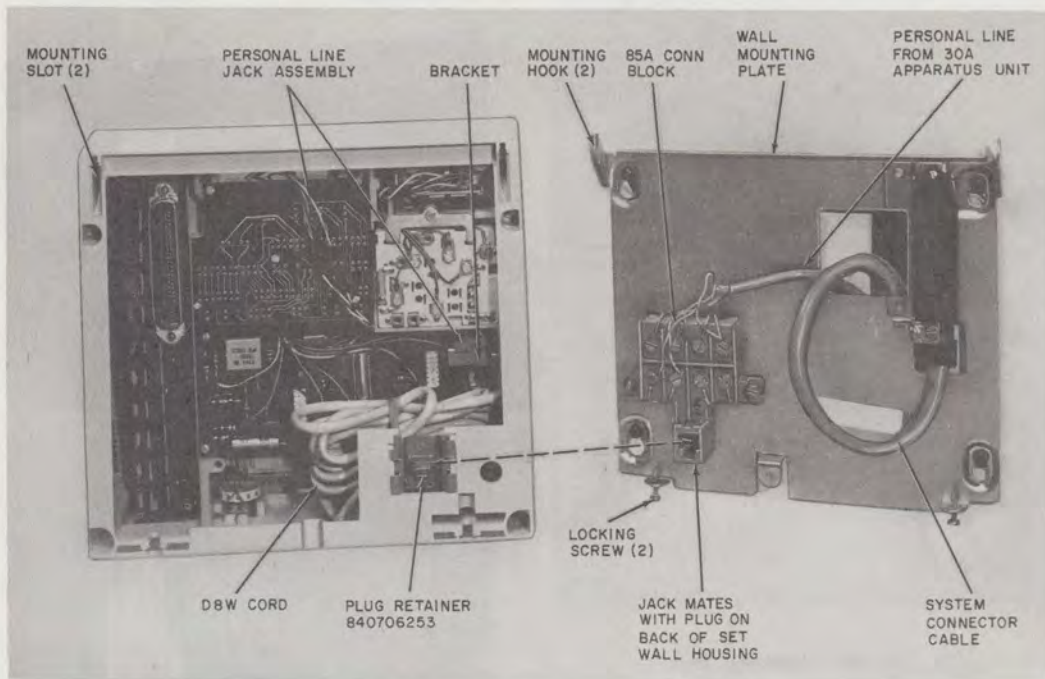

Fig. 16—Basic Satellite Wall Set Disassembled
(b) In some installations, a connector cable may be concealed in the wall and brought through an opening behind the telephone set (Fig. 16).
- (c) Mount the 85A block on the wall mounting plate with the two screws supplied with the plate (Fig. 16).